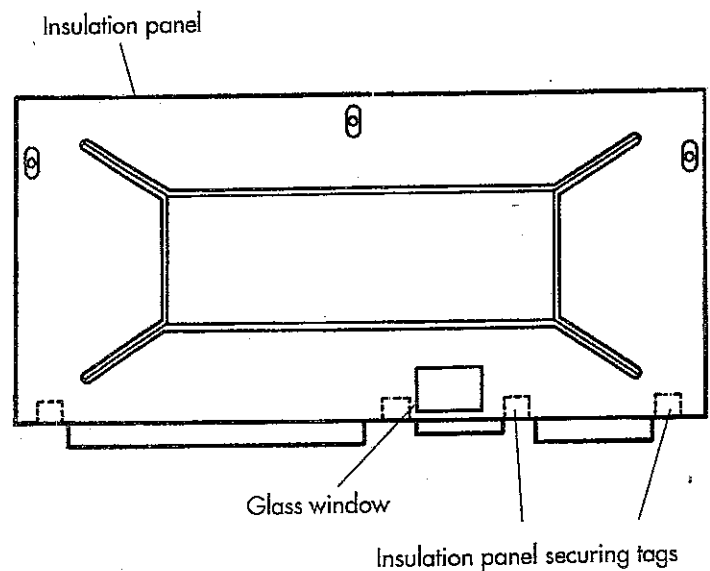

Fig. 51
- l) Pull up the four metal tags which secure the insulation to the front panel (fig 51).